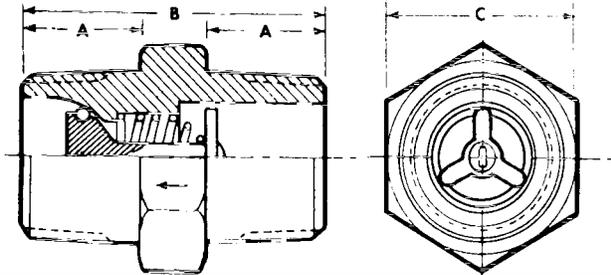

Figure 1
**Dimensions:** ..... See Figure 1.